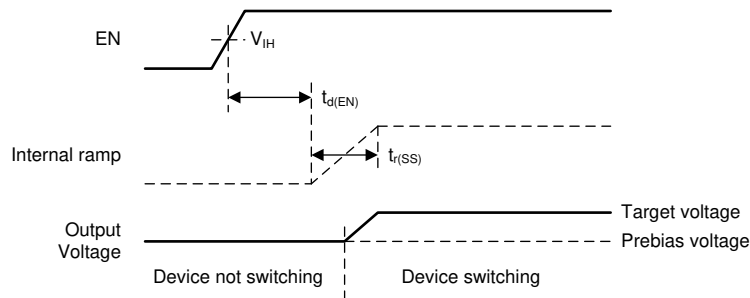

Figure 6-8. Start-Up Behavior into Prebiased (Low) Output
- If the prebias voltage is *lower* than the target voltage, the device does not start switching until the ramping output voltage is greater than the prebias voltage (see Figure 6-8).